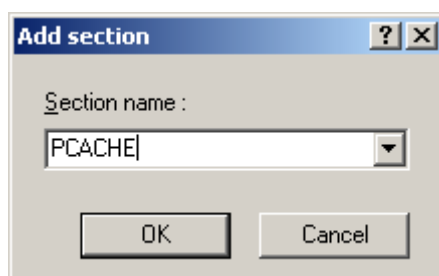

Figure 5.3.13 Section Setting (5/6)
(5) The [Add section] dialog box will open. Enter "PCACHE" in the [Section name] as shown in Figure 5.3.13 and click "OK". The [CACHE] section is defined in the "cache.c" source file. The first character "P" stands for P section.